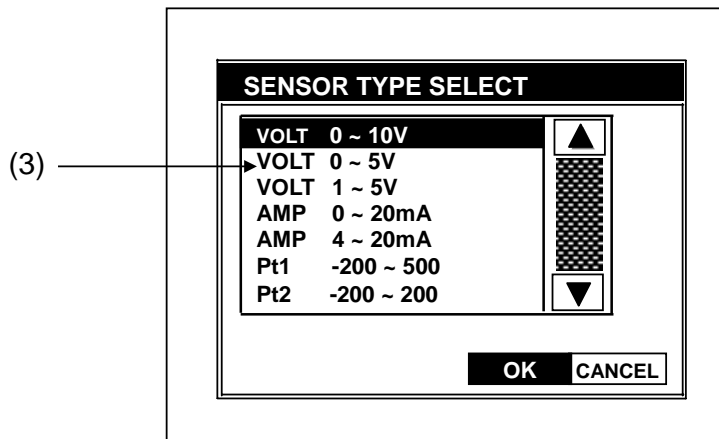

Fig. 3.3.2 SENSOR TYPE SELECTS
- If the button(4) is pushed, Figure 3.3.2 appears and you can select the sensor type in the screen.
(4) SENSOR TYPE Setup Button: Screen Conversion
- Conversion to <Fig 3.3.2 >
(5) SCALE LH(Low – High)